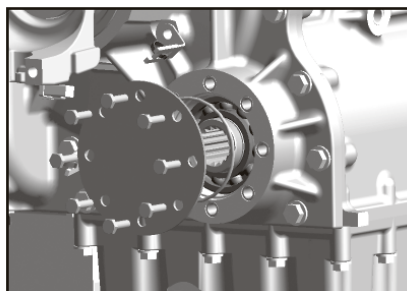

Fig. 2
3. Remove the O-Ring and clean the aperture surface. (**Fig. 2**)